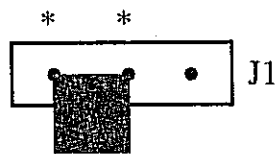

Figure 8: short connect the circuit shorter
- a. Before setting or calibrating, you should first open the indication and find the circuit shorter J1 and make it short connected as diagrammed in Figure 8: